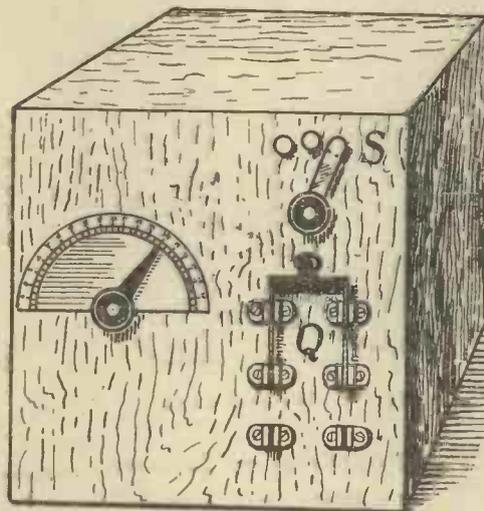

Fig. 1. The completed instrument.
The wave-meter is contained in a wooden box 8 in. by 6½ in. by 5 in., and it will be seen, therefore, that the finished instrument is quite compact. A general idea of the wave-meter can be inferred from Fig. 1. The circuit is shown in Fig. 2, the various components of which are to be described in detail.
**Switch Q. (FIG. 1).**